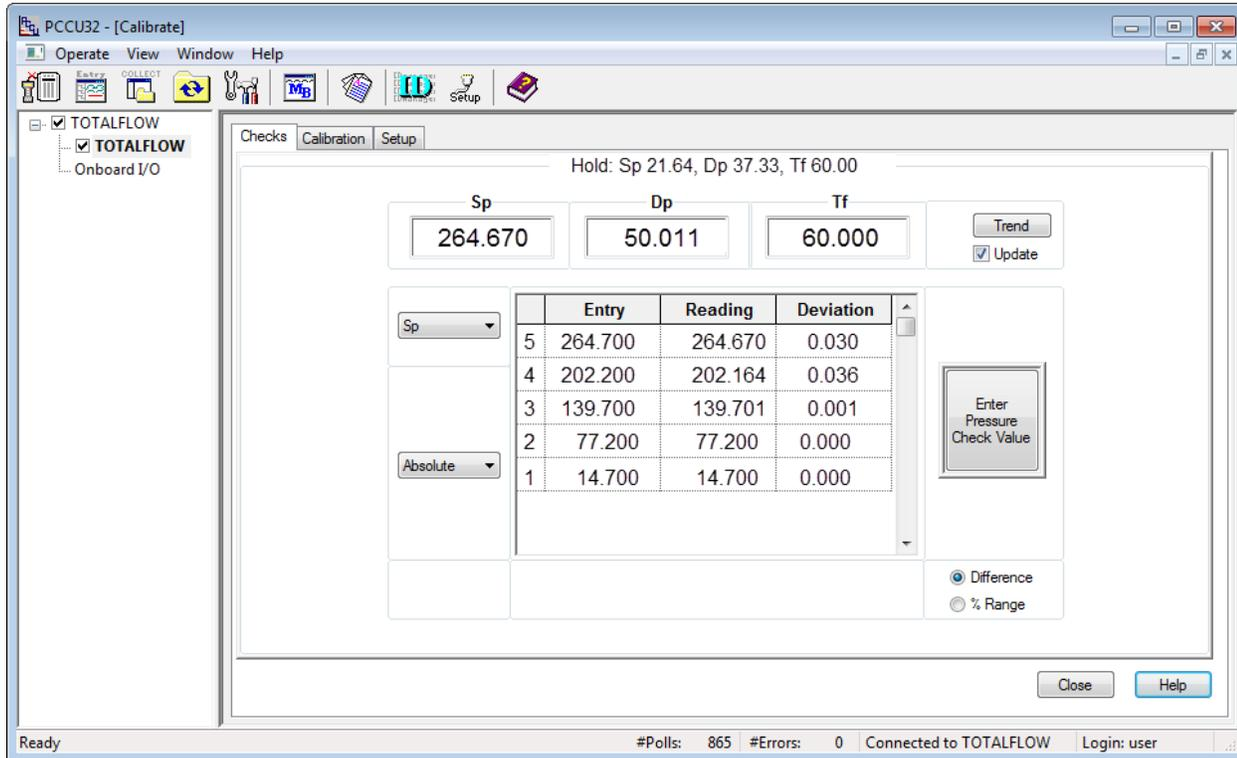

Figure 87: SP calibration pressure checks
4. Define the SP display value: **Absolute** or **Gauge** (Figure 87).